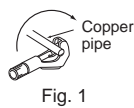

Fig. 1
- The drain hose should point downward for easy drain flow. (Fig. 1)
- Put the refrigerant piping and the drain hose together, then firmly apply felt tape (4) from the end.
- Pull out the drain cap at the rear right of the indoor unit. (Fig. 1)
- 1) Cut the copper pipe correctly with pipe cutter. (Fig. 1, 2)